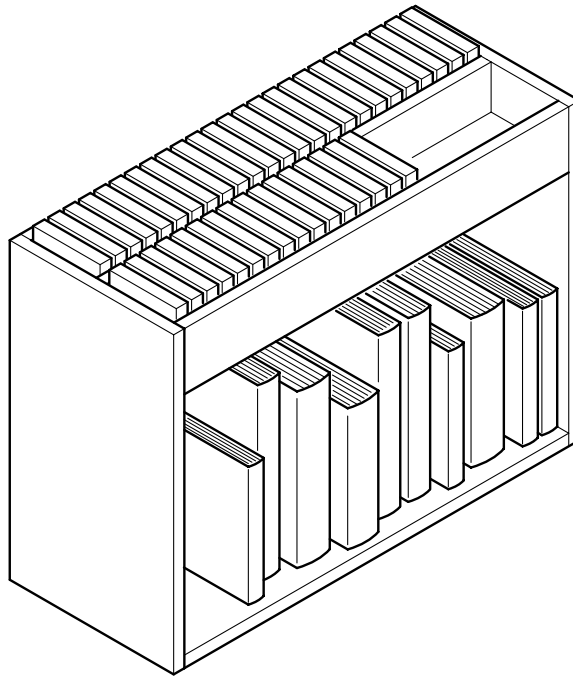

Fig. 6
- 7 Fig. 6 shows a storage unit to hold cassette tapes and books.